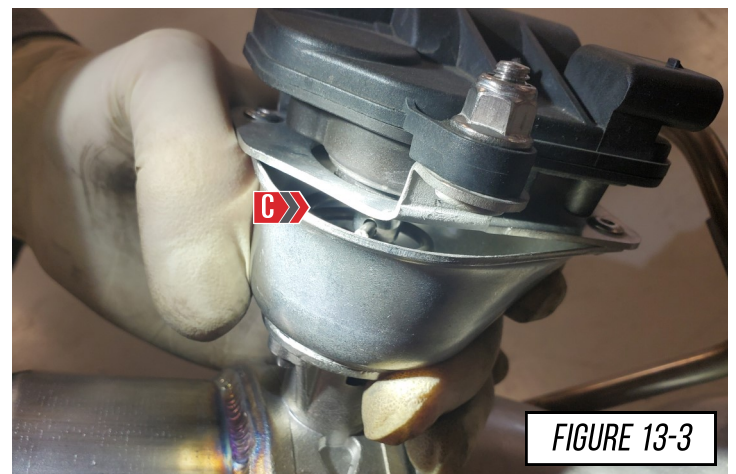

FIGURE 13-3
Last check to make sure the valve motor and spring are sitting (C), as shown in **Figure 13-3**.